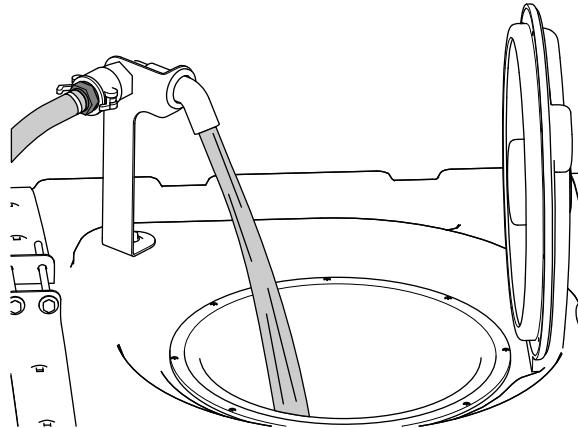

Figure 73
5. Add 3/4 of the required water to the spray tank (Figure 73).